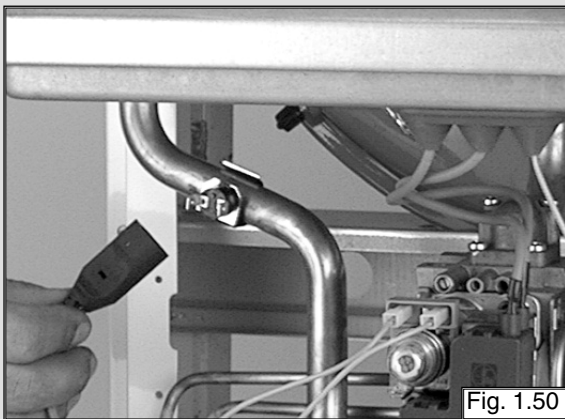

Fig. 1.50
1. Remove the electrical connection from the overheating thermostat (see fig. 1.50);